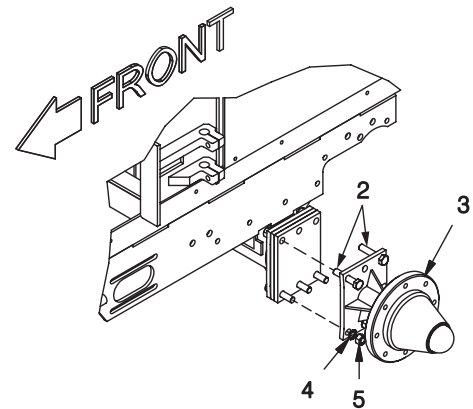

Figure 2-3-4 - Mounting Hub
B. Place (2) Item 2 Bolts through the hub as shown in Figure 2-3-4. Place hub onto axle. Torque all nuts and bolts as per torque chart on page 2-3-1.